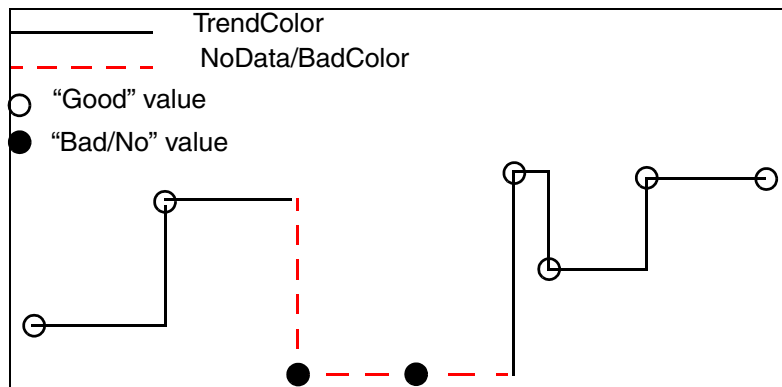

Figure 101. Curve Drawn in Curve_Rectangle Mode
- `curve_rectangle` - Values are connected horizontally and vertically, drawn with the specified line width, Figure 101.